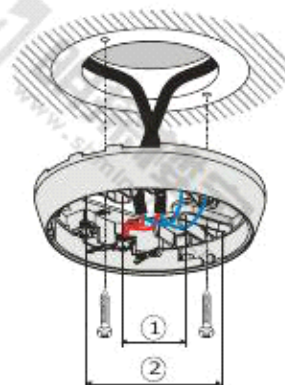
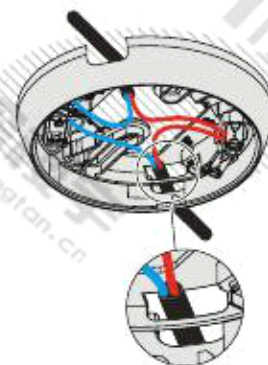

Fig. 2
Fig. 3
1. Insert the cables through the base using either surface mounting (cable diameter of up to 8 mm) or recess mounting (Fig. 2/Fig. 3).
2. Install the detector base directly on the recessed box or an even surface (Fig. 2).
- If a surface-mounted cable feed is used, there are two possible break-out points on the detector base for the cable entry (Fig. 3).